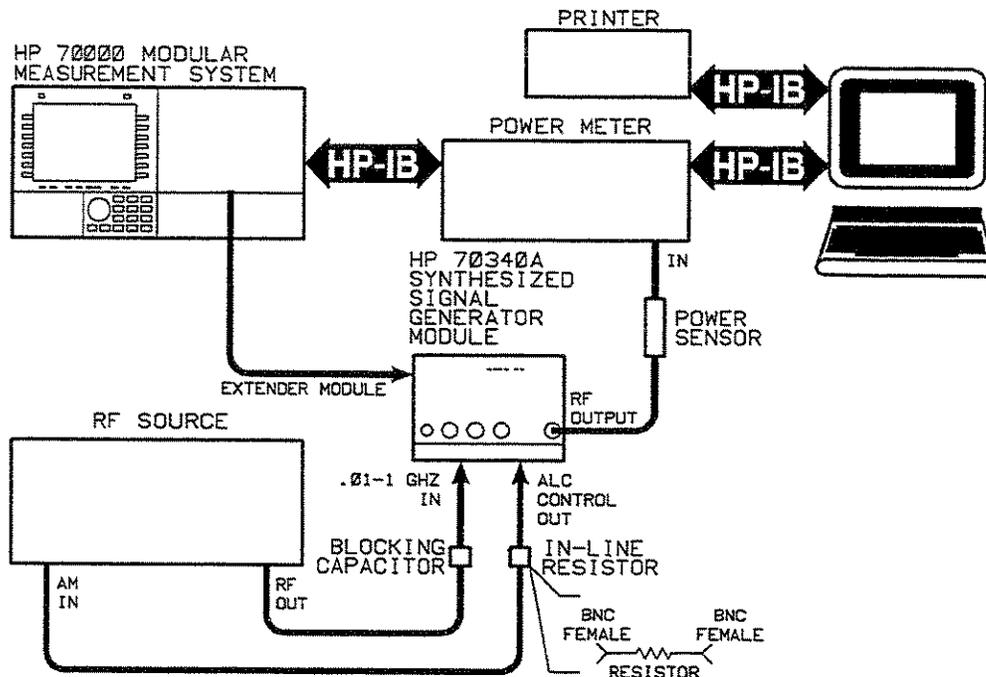

Figure 3-10. Lo Band Frequency Calibration Equipment Setup
2. Set up the equipment as shown in Figure 3-10.